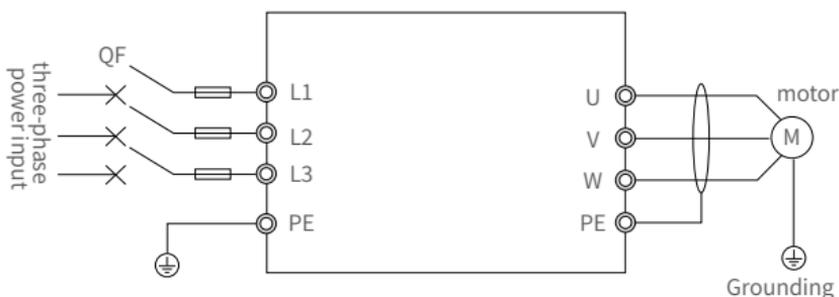

Figure 4-1 Wiring Diagram for Test Run
- (1) Before connecting the input power supply to the inverter, confirm that the power supply voltage is within the rated input voltage range of the inverter.
- (2) Wire according to the diagram shown in Figure 4-1.
- (3) After confirming that the wiring is correct, close the power switch to turn on the power, and the inverter will display "50.00"
- (4) Select the control mode as P00.00=0, V/F control mode.
- (5) Select the command source as P00.01=0, keypad control.
- (6) Select the frequency source as P00.02=0 (keypad digital setting), and set the preset frequency P00.08=0.00.
- (7) Press the "I" key to start the inverter; the inverter outputs 0 frequency, and the keypad displays "0.00".
- (8) Press the "▲" key to increase the set frequency; the output frequency of the inverter starts to increase from "0.00", and the motor speed accelerates.
- (9) Observe whether the motor operates normally. If there is any abnormality, stop the machine immediately, eliminate the cause, and then restart.
- (10) Press the "▼" key to decrease the set frequency; the motor speed decreases.
- (11) Press the "⏻" key to stop the inverter and cut off the input power supply.
- (1) Connect the wires as shown in Figure 4-1, and turn on the power switch after confirming that the wiring is correct;
- (2) Set the following parameters in the order below: